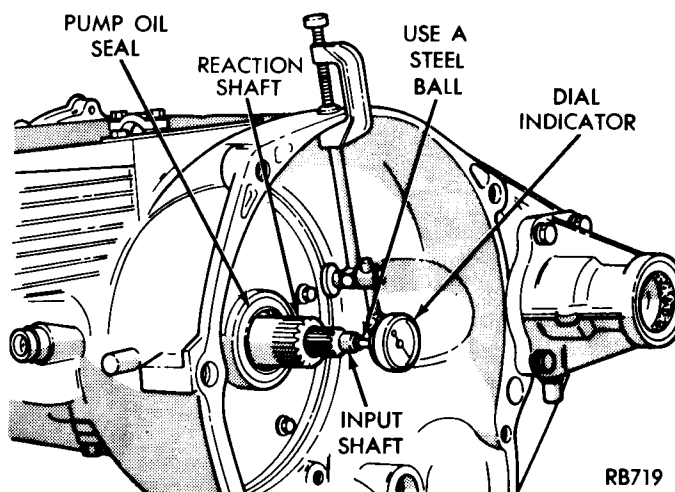

Fig. 3. Measure Input Shaft End Play
(1) Attach a dial indicator to transaxle bell housing with its plunger seated against end of input shaft (Fig. 3).